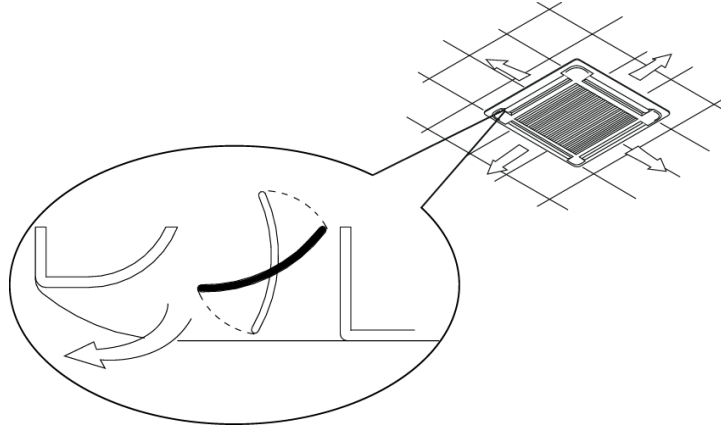

Figure 3
- It is recommended to position the unit as centrally as possible in the room to ensure optimum air distribution.(Figure 3)